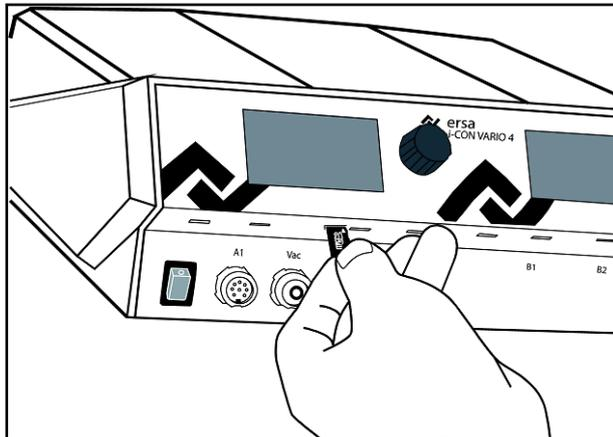

Figure 4. Inserting the microSD™ card, front view
- Insert the microSD™ card as shown in figures 4 and 5.